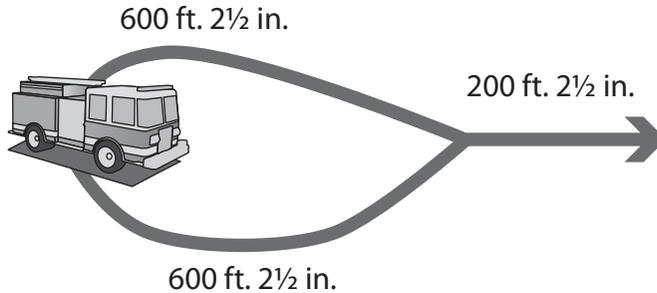

Fig. 2-4. Most combination layouts combine multiple hoselines into a single one.
The most efficient way of calculating this type of layout is to break down the whole layout into separate parts. In looking at figure 2-4, it is best to separate the attack line first. As discussed previously, a 1" tip flows 210 gpm. Using that, the friction loss can be determined for this section:  $(2Q^2 + Q) \times L = 21.84$ . Next the friction loss in the two lines supplying the attack line can be determined. For this, the total gpm flow (210) is divided by the number of hoselines (2), and the friction loss is calculated for one of the lines. (The other line will be the same.) Each hoseline carries one-half of the total flow:  $[2(1.05^2) + 1.05] \times L = 9.25$ .